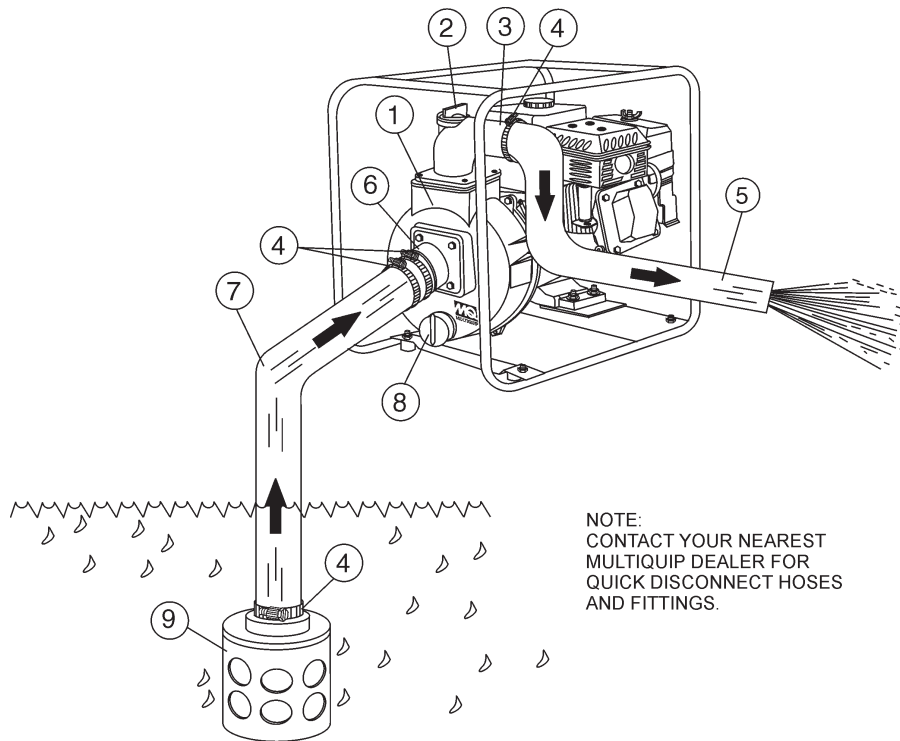

Figure 2. QP2E Pump Application
Figure 2 shows a typical application using the QP2E centrifugal pump. Please note that this pump is intended for the removal of clean water.
2. To prime pump, remove fill cap (Figure 2) and fill pump casing with water. If the pump casing is not filled with water before starting, it will not begin pumping.
3. Attach suction and discharge hoses to the pump. Check that all hoses are securely attached to the pump. Make certain suction hose (Figure 2) does not have any air leakage. Tighten hose clamps and couplings as required.
6. Check that the discharge hose (Figure 2) is not restricted. Place hose so that it lays as straight as it is possible on the ground. Remove any twists or sharp bends from hose which may block the flow of water.
8. Make sure the suction strainer (Figure 2) is clean and securely attached to the water end of the suction hose. The strainer is designed to protect the pump by preventing large objects from being pulled into the pump.